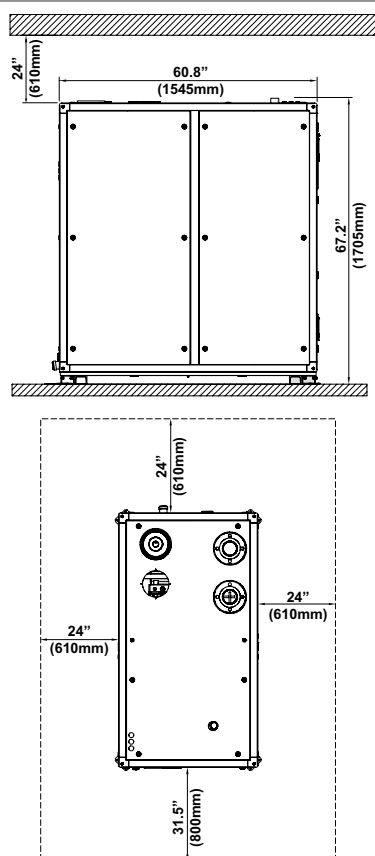

Fig. 3 Array AR 1000, AR 1500 Clearances
The unit must be installed with the prescribed clearances for service as shown in Fig. 3. The minimum clearance dimensions, required by **RIELLO**, are listed below. However, if Local Building Codes require additional clearances, these codes shall supersede **RIELLO's** requirements.
**⚠ CAUTION:** While packaged in the shipping container, the unit must be moved by pallet jack or forklift from the SIDE ONLY (see Fig.3).